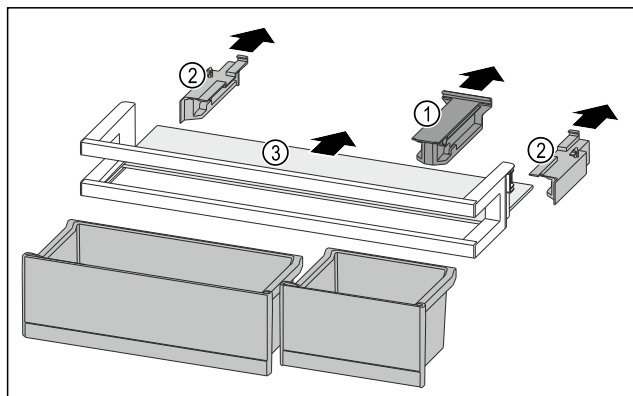

Fig. 132
- Pull off the holding part Fig. 132 (1).
- Pull off the side parts Fig. 132 (2).
- Remove the shelf Fig. 132 (3).